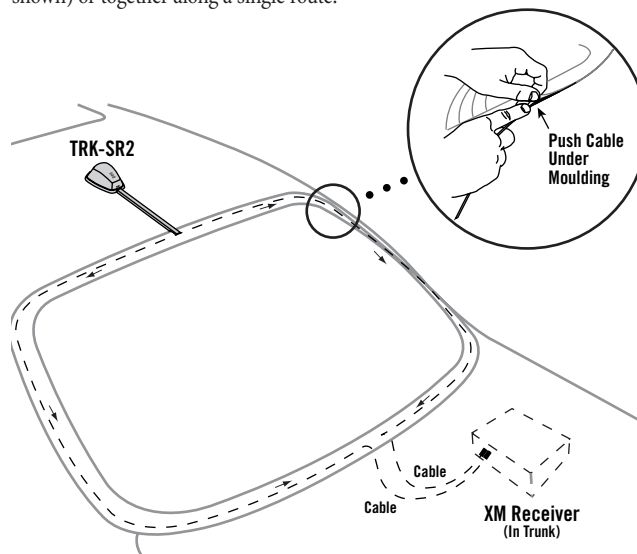

Figure 10. Routing the TRK-SR2's cable along a vehicle's rear window.
5. Push the cables under the rear window molding and route them to the XM receiver, as shown in Figure 10 below. The cables can be routed separately (as shown) or together along a single route.